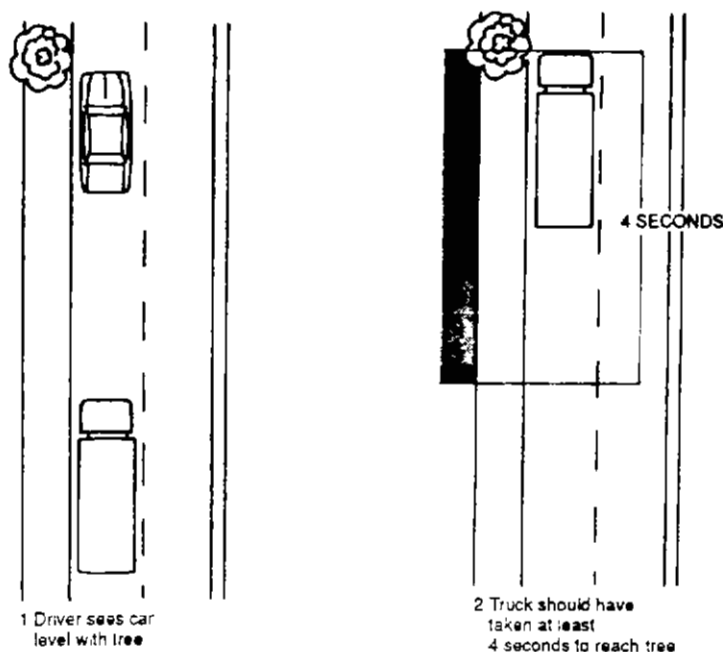

Figure 3.3
- as soon as the vehicle passes the object, start counting the seconds until your vehicle reaches it. The elapsed time should let you know if you are too close. Figure 3.3 shows you how this is done.